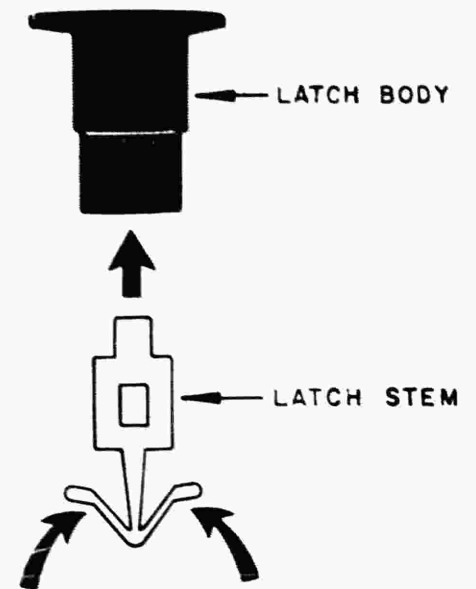

FIG. 2
- e) Insert the latch stem into the latch body as shown in Fig. 2 making certain the latch stem is inserted completely by squeezing the flexible wings together.